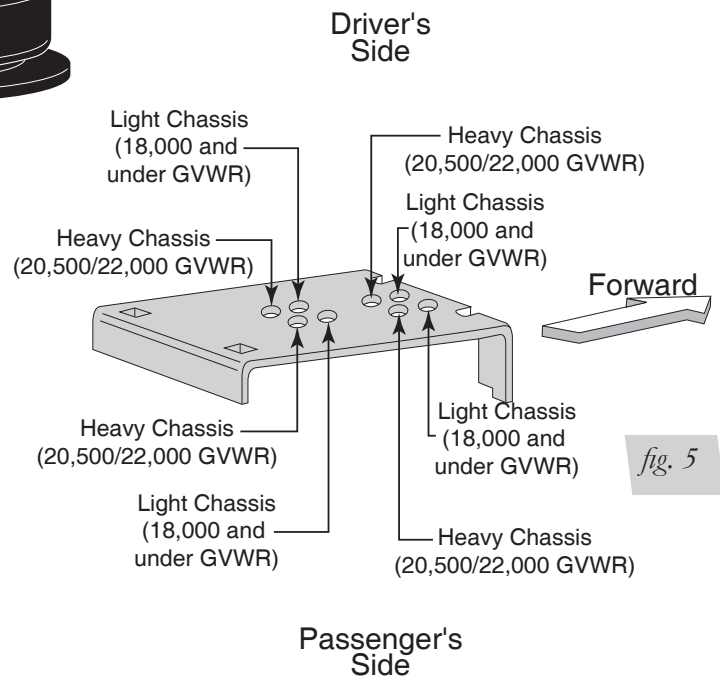

fig. 5
4. To find the proper air spring mounting holes on the lower bracket (fig. 5), place the template, provided on page 16, on to the top of the lower bracket (C). Be sure to line up the outside edges of the bracket to the outline on the template. Using the key on the template, determine and mark the correct mounting holes. The driver's side will use one of the sets of holes on the left side of the template/bracket, and the passenger's side will use one of the sets of holes on the right side of the template/bracket.